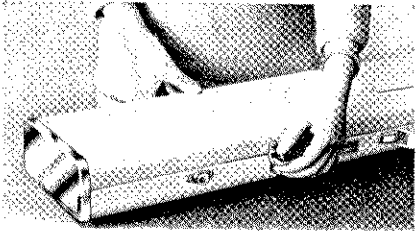

Fig. 2
2. Remove the upper case. Unlock the catches on both side of the handle. (See Fig.2)